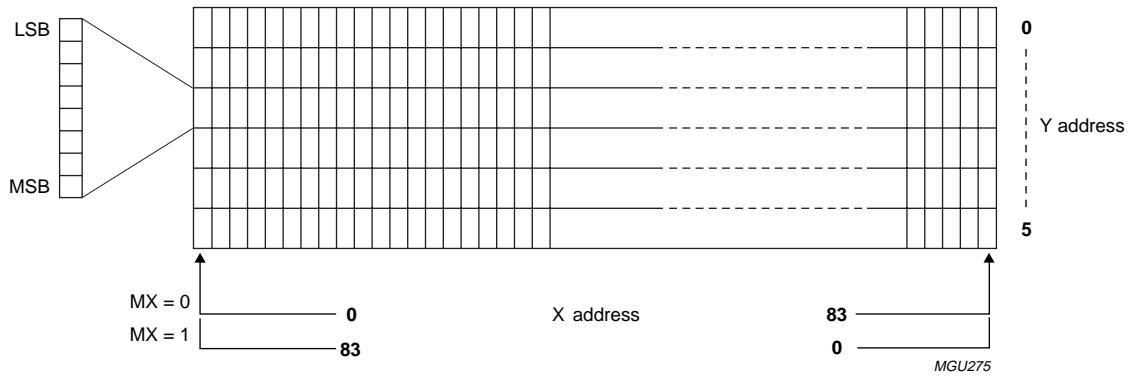
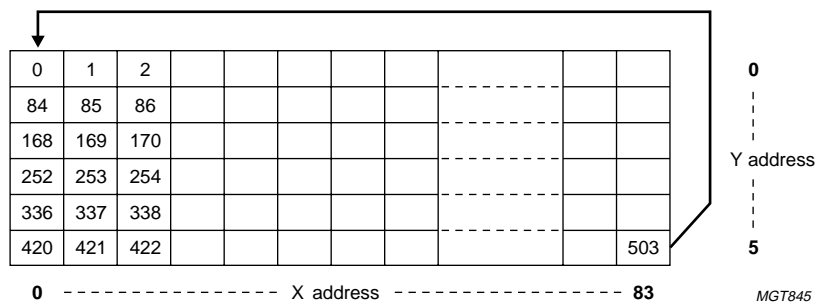

Fig.6 RAM format, addressing.
Fig.7 Sequence of writing data bytes into RAM.
Data is downloaded in bytes into the RAM matrix of OM6211 as illustrated in Figs 6 and 7. The display RAM has a matrix of 48 × 84 bits. The columns are addressed by the address pointer. The address ranges are $X = 0$ to 83 (1010011) and $Y = 0$ to 5 (101). Addresses outside of these ranges are not allowed. The X address increments after each byte (see Fig.7). After the last X address ($X = 83$) X wraps around to 0 and Y increments to address the next row. After the very last address ($X = 83$ and $Y = 5$) the address pointers wrap around to address $X = 0$ and $Y = 0$.
The selection of the MX input allows horizontal mirroring: when $\text{MX} = 1$, the X address space is mirrored (see Fig.6). When $\text{MX} = 0$ the mirroring is disabled. MX affects data only during writing to the RAM, so after a change of MX RAM data must be re-written.